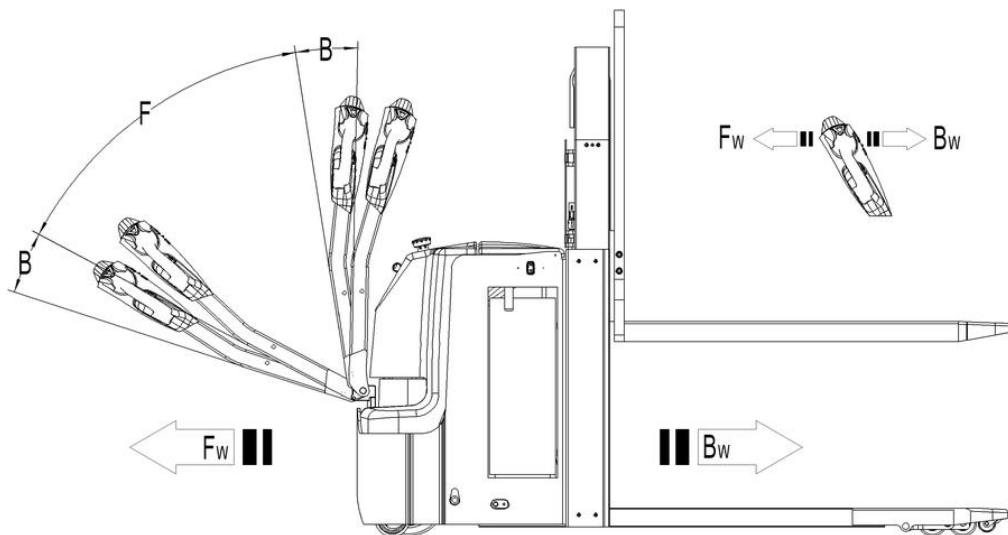

Fig. 10: Operating direction
After starting the truck by turning on the key switch (6), move the tiller to the operating zone ('F', fig.10).
Turn the accelerator button to the desired direction forward 'Fw.' or backwards 'Bw.'(fig. 10).